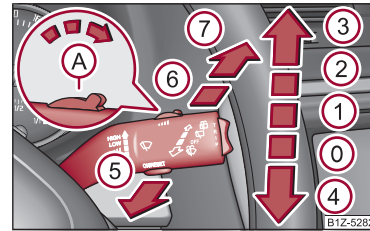

Fig. 43 Windscreen wiper lever
The windscreen wiper lever ⇒ fig. 43 has the following positions:
- If the slower ② or the faster ③ wiper setting is switched on ⇒ page 47, fig. 43 and the vehicle speed decreases to below 4 km/h, the lower wiper step is switched on automatically. At a speed increase of more than 8 km/h the previous wiper setting is established again.
- Then press the windscreen wiper lever in the position ④ ⇒ page 47, fig. 43 within 20 seconds – the wiper arms move into the service position.